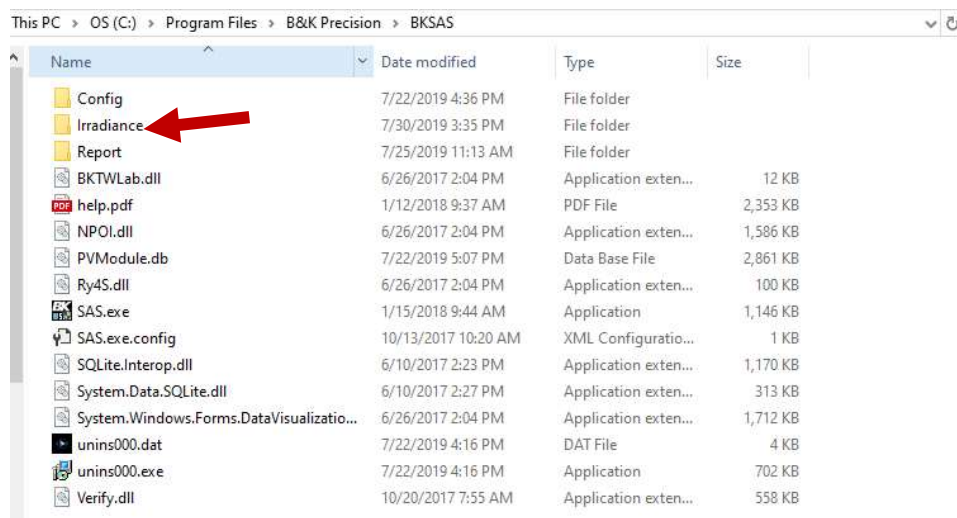

Figure 14 - Navigating to the Irradiance Folder
1. The user-created IRTP file can be created from a text document by navigating to the SAS software installation directory, and then to the Irradiance folder as shown in Figure 14.